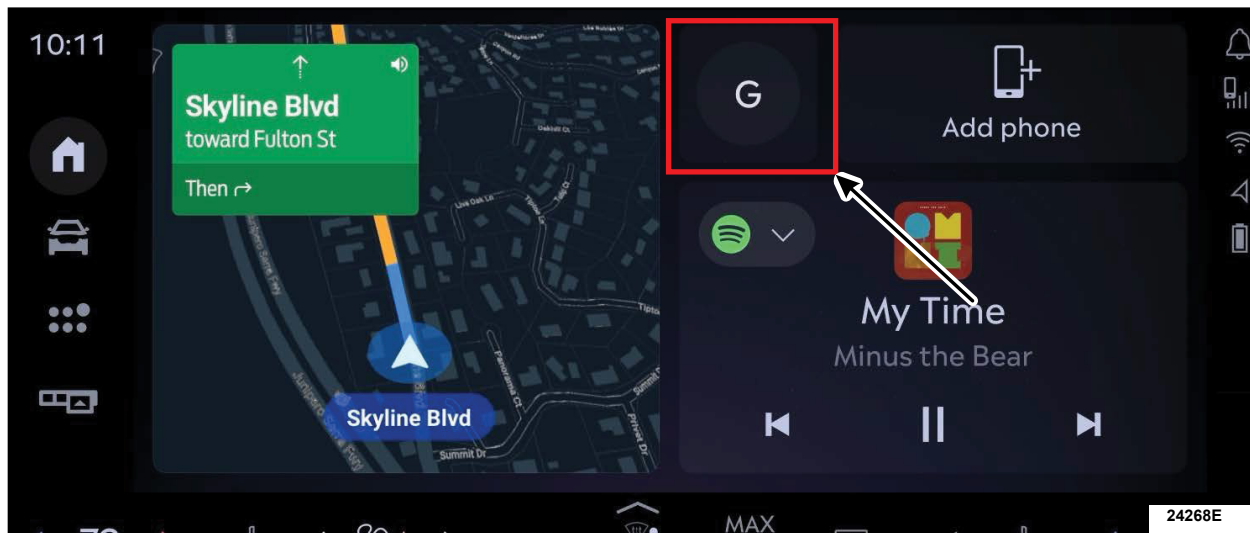

FIGURE 2
11. On the center display screen of the vehicle, make sure the system setting is **NOT** using a guest profile. Change the system profile by selecting the center upper button on the home screen. See Figure 2.